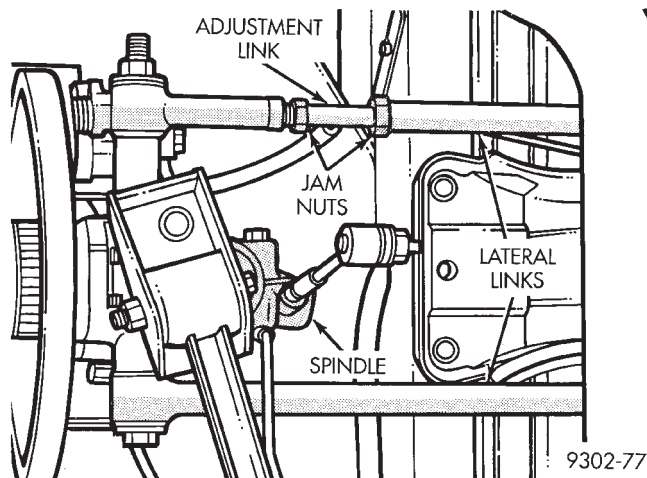

Fig. 1 Rear Wheel Toe Adjustment At Lateral Links
(1) Prepare vehicle as described in the Pre-Alignment procedure.
(2) Loosen lateral link, adjustment link jamnuts (Fig. 1). Rotate adjustment links as required to set rear wheel Toe to specifications. **Do not exceed the maximum length dimensions of the lateral links shown in (Fig. 2). Both dimensions must be checked to ensure they do not exceed maximums allowed.**